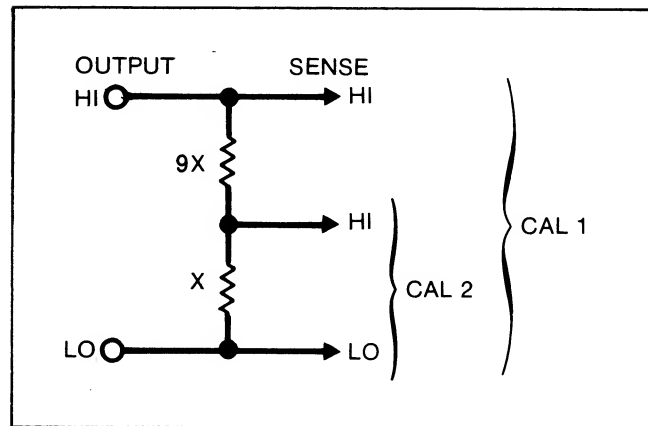

Figure 4-3. Internal Ratio Divider
The 5450A SENSE terminals are switched between the upper and lower taps of the resistor divider using the front panel up-arrow and down-arrow switches. (See Figure 4-3.) To sense the upper tap (CAL1), press the up-arrow switch; the 5450A will display "CAL1". To sense the lower tap (CAL2), press the down-arrow switch; the 5450A will display "CAL2". While ratioing up, the 5450A displays the cardinal value of the combined resistor value (10X). While ratioing down, the 5450A displays the cardinal value of the lower decade resistor (X).